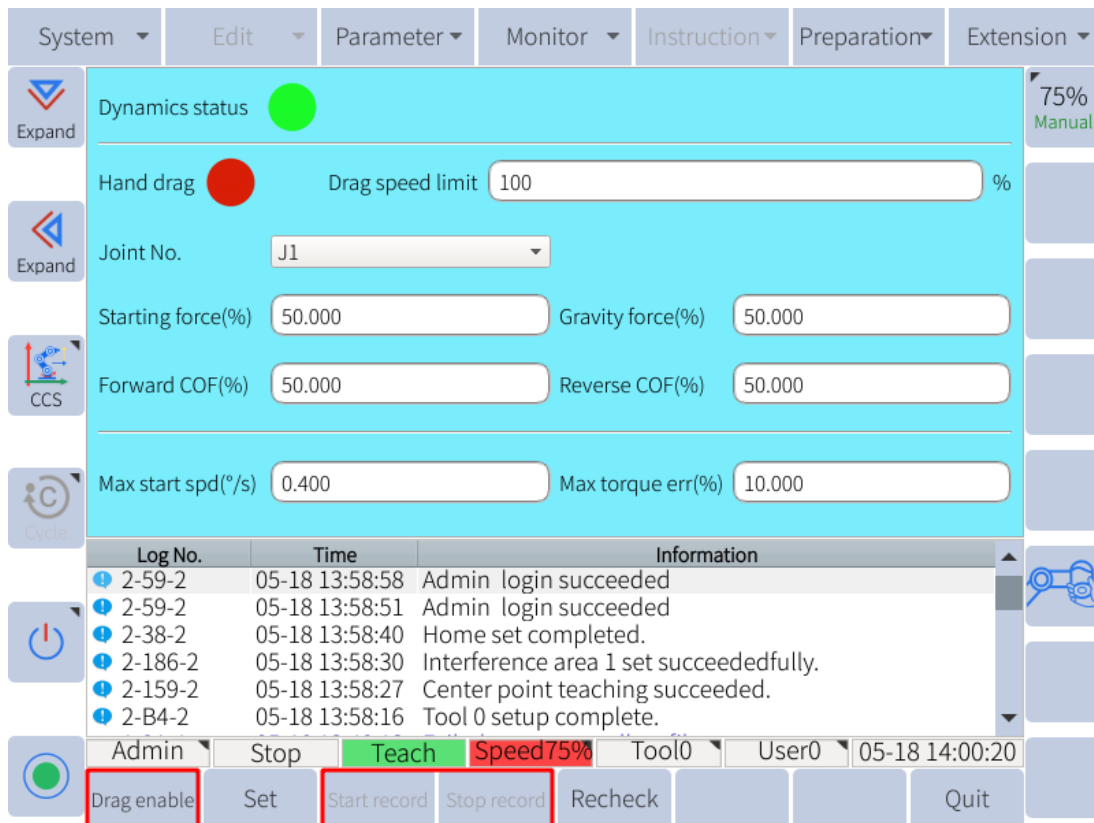

Figure 6-52 : Drag and teach
1. Click **Preparation -> Hand drag** to enter the drag teaching interface, as shown in **Figure 6-52**